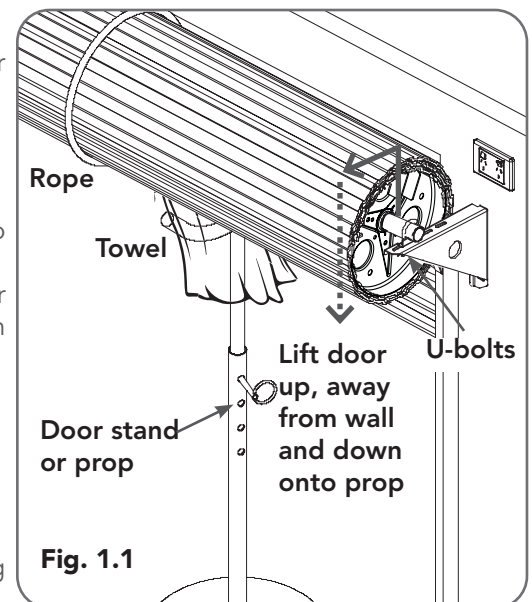

Fig. 1.1
- Lift the door up and away from the wall until clear of the door bracket, before lowering the door to rest on the door stand or prop. (**Fig 1.1**)